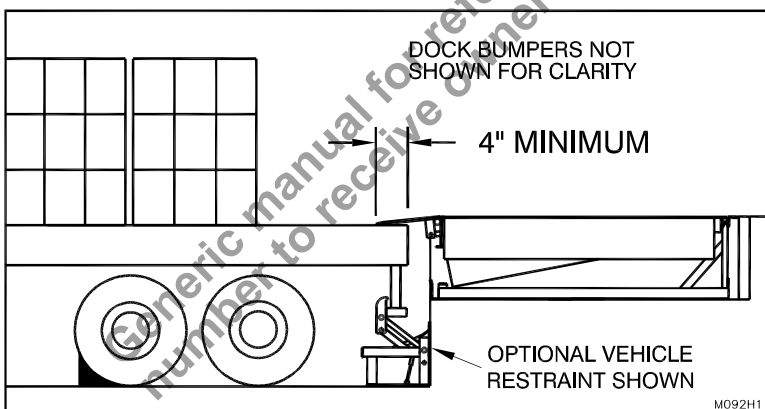

Figure 55: Minimum 4” Penetration
3. Release the **RAISE** button. The leveler will float down to the truck bed. If necessary release the optional fall safe legs to allow the dock leveler to float below level. **Note:** Restore the leveler to the dock level storage position for end loading (See “Figure 55: End Loading” on page 48)